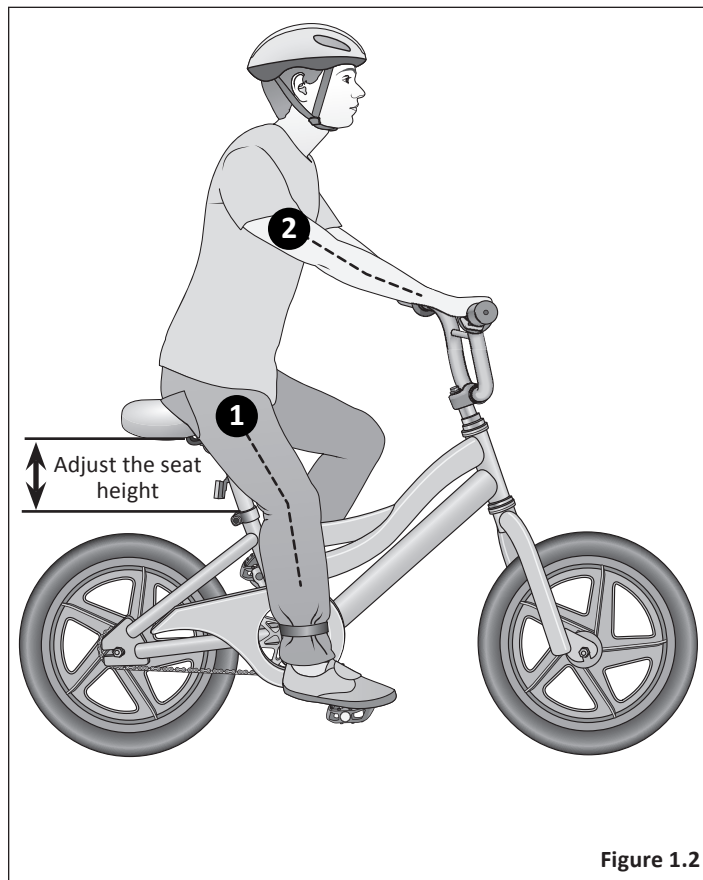

Figure 1.2
- 1 Your legs should be almost completely straight when the pedal is in the down most position, just a slight bend in the knee. **Figure 1.2**